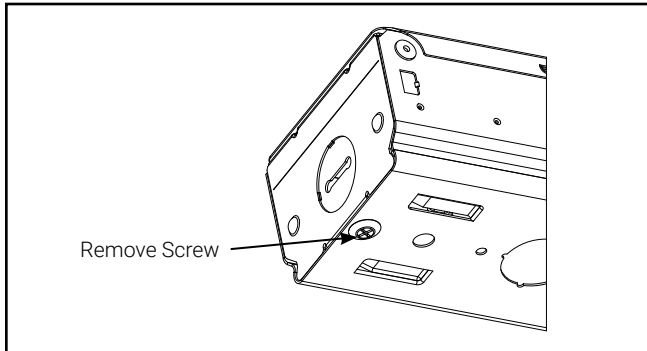

Figure 3.
2. Remove screw from bottom of channel. Screw is no longer required (Figure 3).